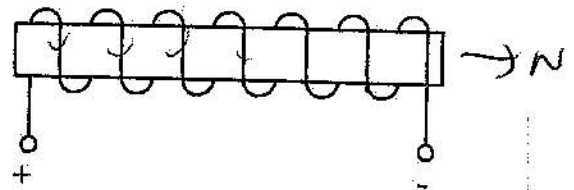

Figure 1
11. For the circuit of figure 1, determine which end of the electromagnet will be the north pole.